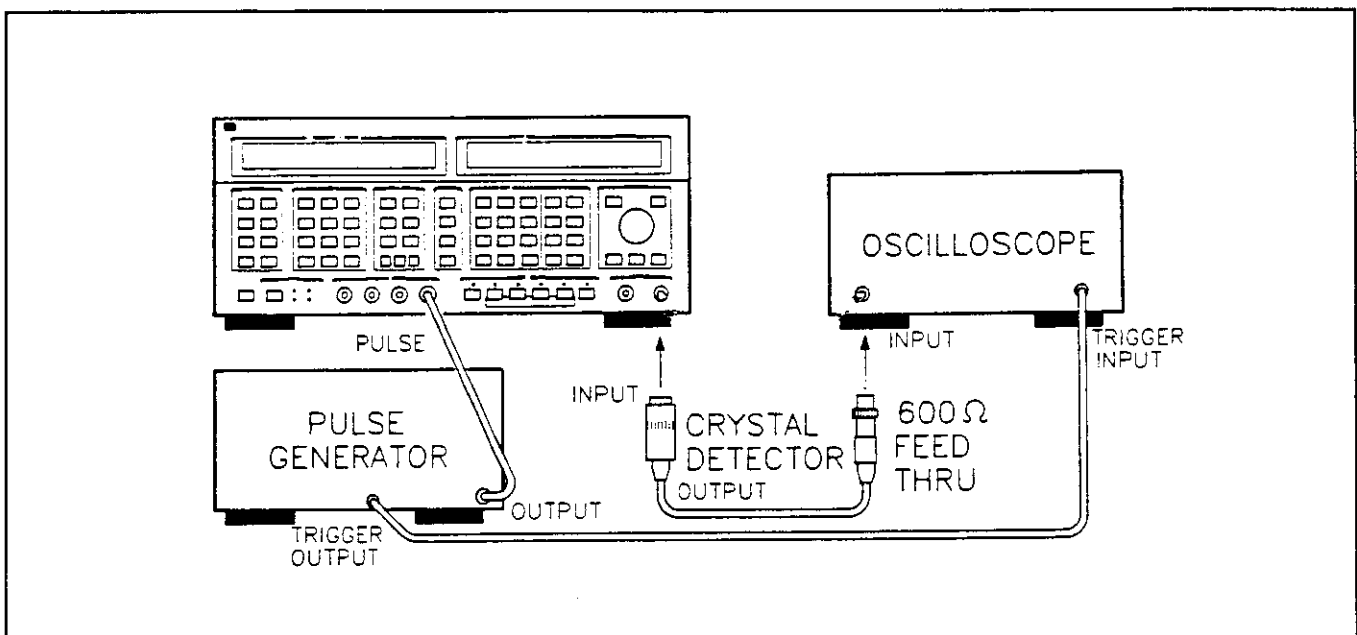

Figure 8-14. Pulse Modulation Test Setup
1. Connect the equipment as shown in figure 8-14.
5. Connect the the crystal detector input to the Signal Generator's OUTPUT connector. Connect the feed-thru termination to the output of the detector then connect the output of the 600 Ω feed-thru to the oscilloscope's input. (Refer to figure 8-14.)
9. Remove the crystal detector from the Signal Generator's OUTPUTS RF and connect the OUTPUTS RF to the spectrum analyzer's input. (The spectrum analyzer is not shown in figure 8-14.)